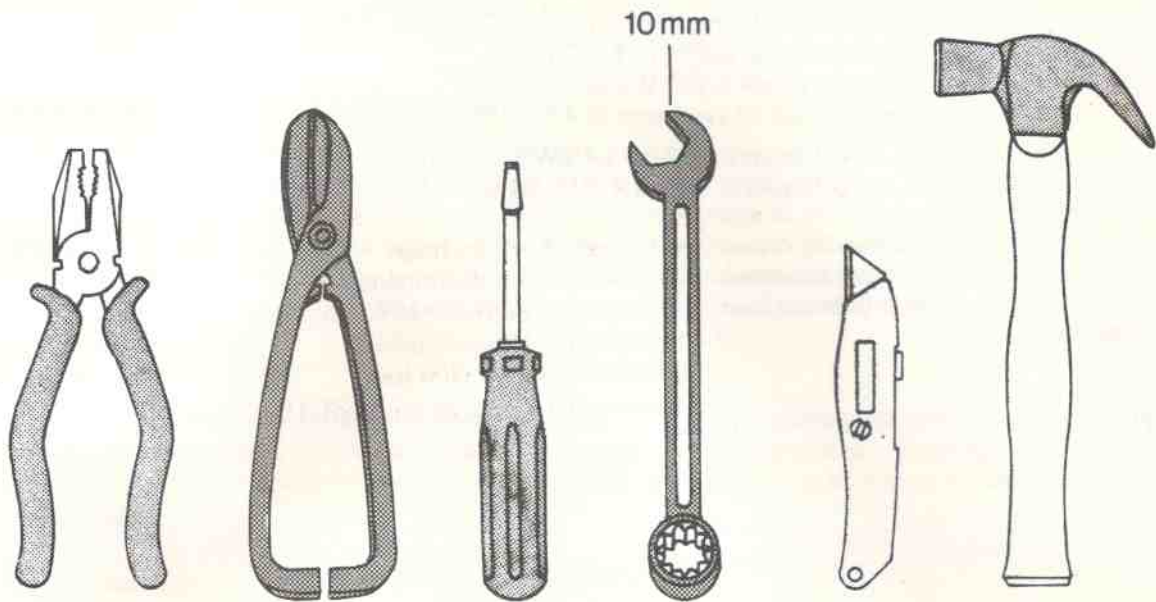

Fig. 1
2. You may need some tools, such as pliers, cutter, screw-drivers, spanner (10 mm), knife, hammer etc. for opening the packing and installing the ILR (fig.1)